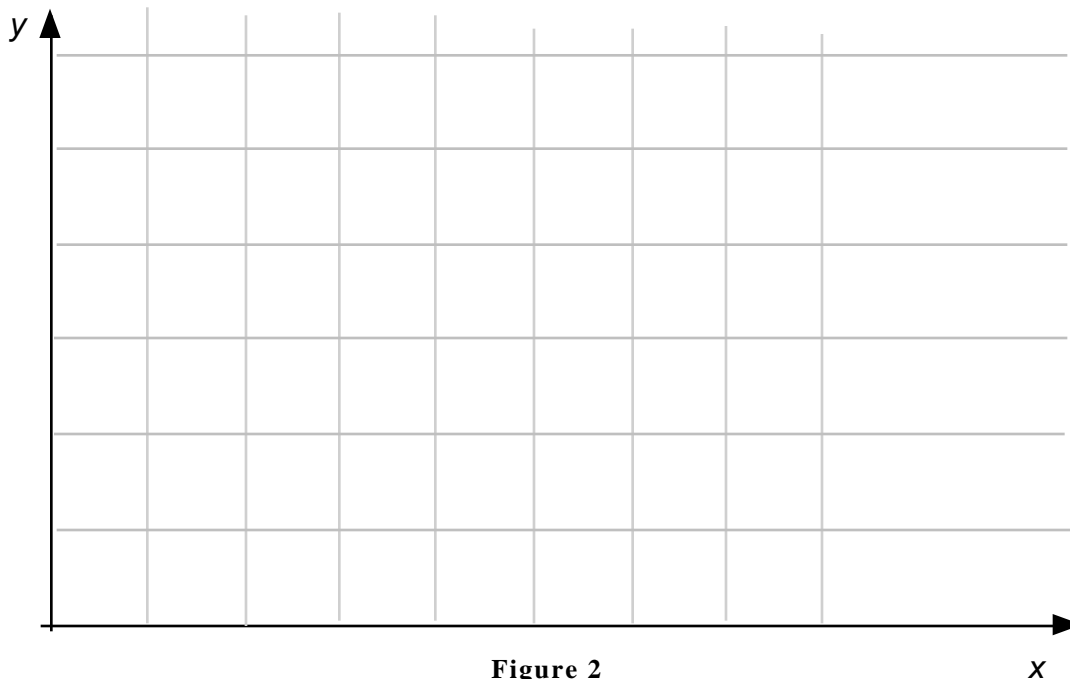

Figure 2
- b) Graph your results on the coordinate system in Figure 2. Record the number of remaining crew members on the x -axis and the number of days they can safely stay in the Station on the y -axis.